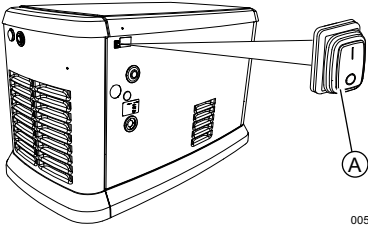

Figure 3-6. External Emergency Shutdown Switch (all models)
See Figure 3-6. An emergency shutdown switch (A) is located on the exterior of the generator back panel. This emergency shutdown switch shuts down generator and disables restarts.